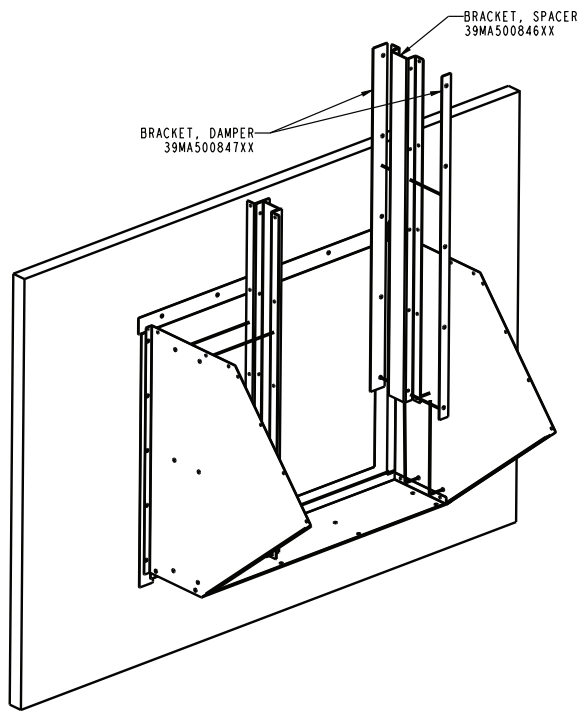

Fig. 75 — Installing the Bracket, Space, and Damper (Sizes 61, 85, 96, and 110)
12. For size 61 units (AF361) and sizes 85, 96 and 110 (AF40 and FC40) install bracket spacer and damper brackets using the $\frac{1}{4}$ in.-14 x $\frac{5}{8}$ in. long sheet metal screws (without neoprene washer.) See Fig. 75.